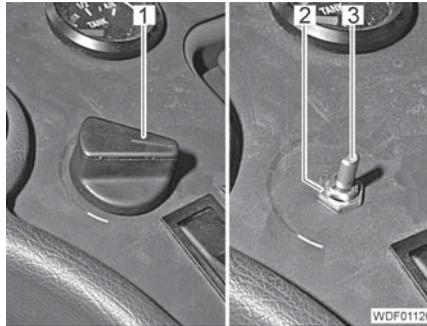
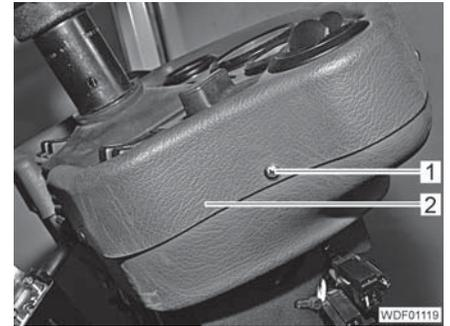

Fig. 399 Knob of the temperature controller
Fig. 400 Fixing of the instrument panel
- Remove the knob (Fig. 399,1) of the temperature controller.
- Unscrew the nut (Fig. 399,2).
- Unscrew the 6 screws (Fig. 400,1).
- Carefully lift up the instrument panel (Fig. 400,2) until the temperature controller is accessible.
- Carefully position the instrument panel (Fig. 400,2) so that the operating part (Fig. 399,3) protrudes through the hole.
- Screw in and tighten the 6 screws (Fig. 400,1).
- Screw the nut (Fig. 399,2) onto the operating part (Fig. 399,3) and tighten it hand-tight.
- Fit the knob (Fig. 399,1) onto the operating part.